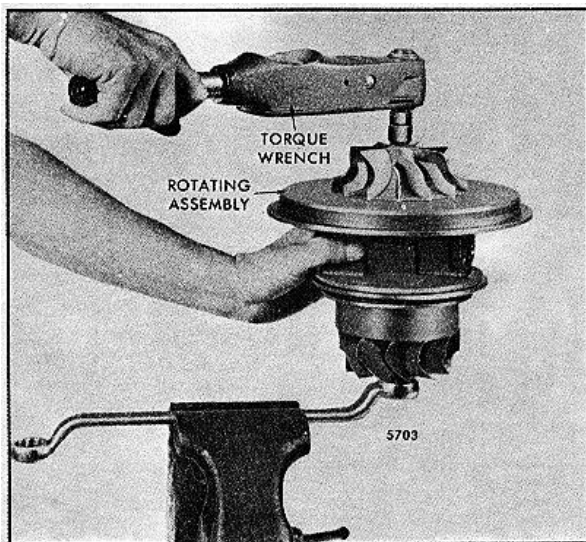

FIG. 16 - Tightening Compressor Lock Nut
25. Insert the turbine wheel lug in a 1 " wrench and tighten the compressor lock nut with a torque wrench (Fig. 16) to 30-32 lb-ft (41-43 Nm) torque.